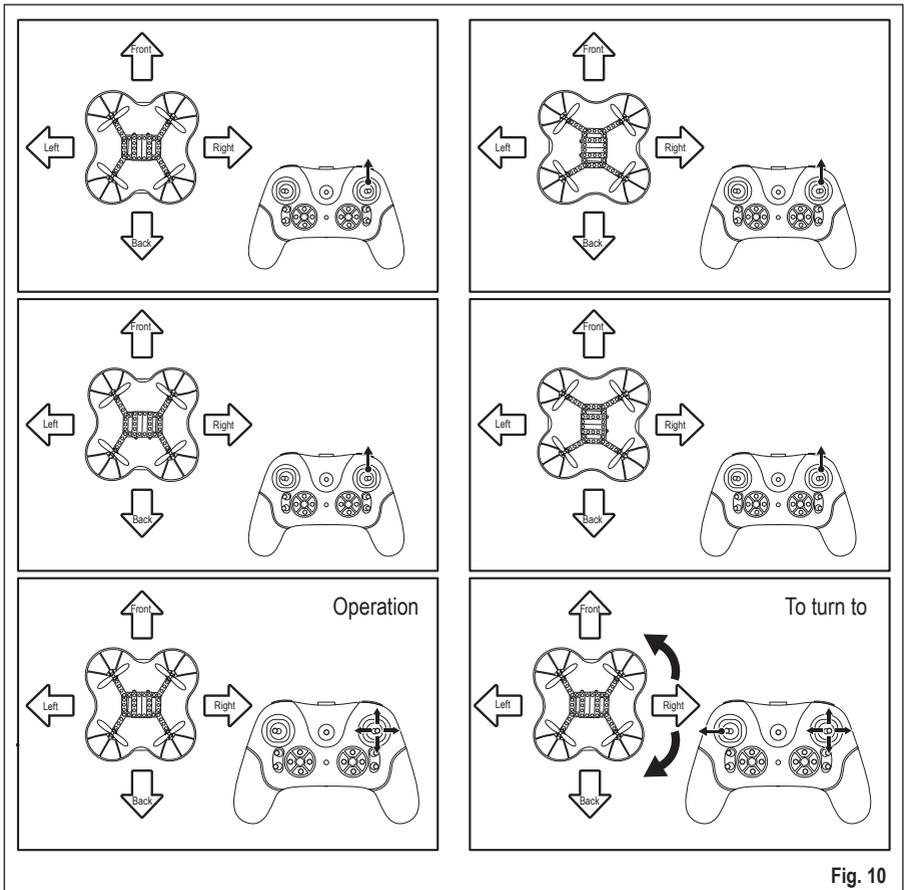

Fig. 10
- See Fig. 10, headless mode. The headless mode is indicated by the two LED lights slowly flashing. No matter where the aircraft locates, the position of the transmitter is the rear of the aircraft. At this time, push the direction joystick down, the aircraft will come back. Push the direction joystick up, the aircraft will fly away from the transmitter.